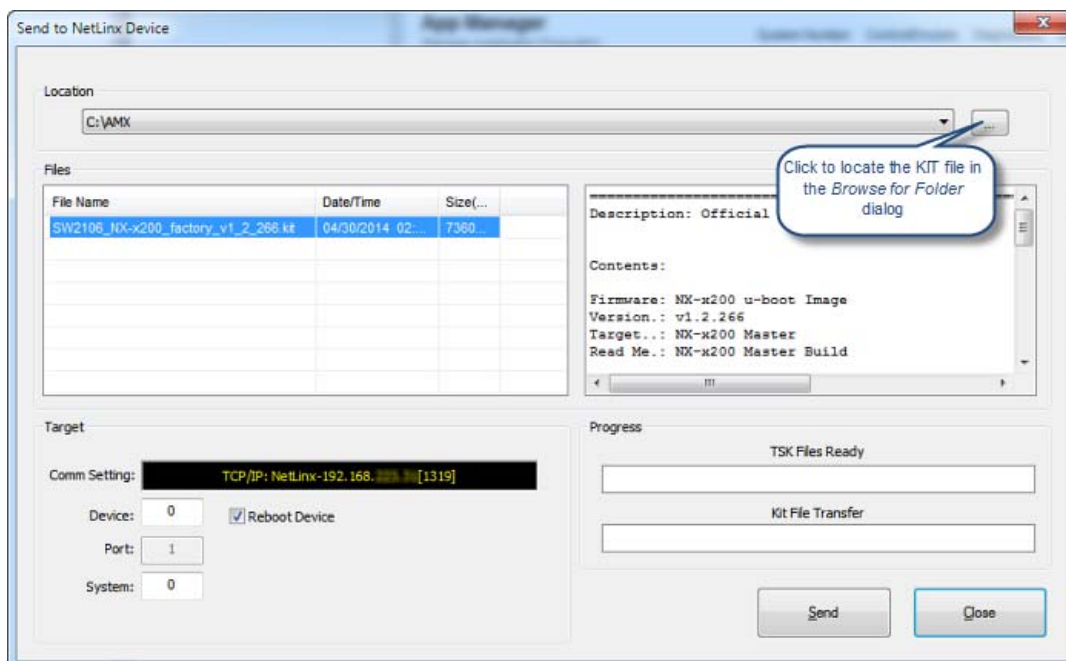

FIG. 25 NetLinX Studio - Send to NetLinX Device dialog
- Click the *Browse* button (...) to locate and select the firmware (*.kit) file that will be transferred, in the *Browse for Folders* dialog (FIG. 25):